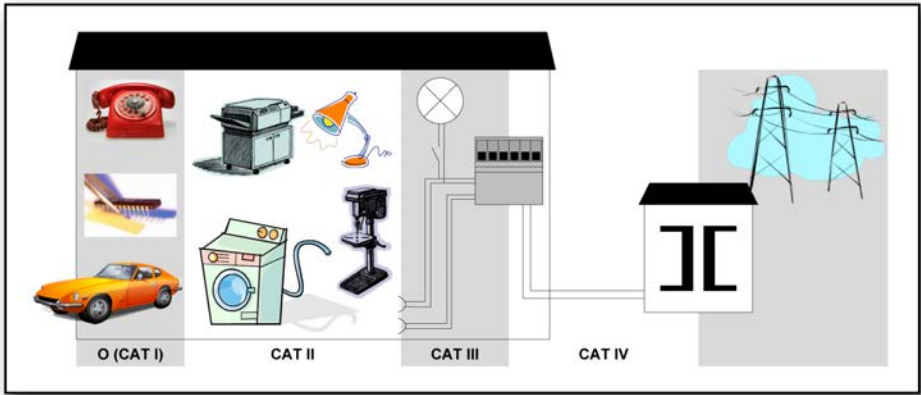

Fig. 2.1 Category indication in accordance with IEC 61010-2-030:2010
**CAT II**: This category is for measurements directly connected to a low voltage mains supply. Measurements for this category are mains sockets in household applications or portable tools. This category expects a minimum of three levels of overcurrent protection between the transformer and connection point of the measurement. (See Fig. 2.1).
**CAT III**: This category is for measurements directly connected to the distribution part of a low voltage mains installation. Measurements for this category are circuit breakers, wiring, junction boxes, etc. This category expects a minimum of two levels of overcurrent protection between the transformer and connection point of the measurement. (See Fig. 2.1).
**CAT IV:** This category is for measurements directly connected to the source of a low voltage mains installation. Measurements for this category are overcurrent protection devices, ripple control units, etc. This category expects that there is a minimum of one level of overcurrent protection between the transformer and connection point of the measurement circuit. (See Fig. 2.1).